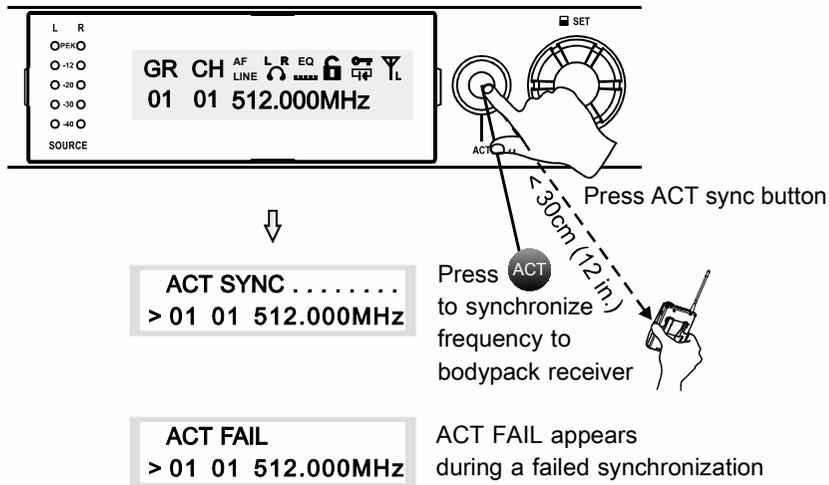

Fig. 32
(O) MIPRO's Proprietary ACT sync function, Fig. 32